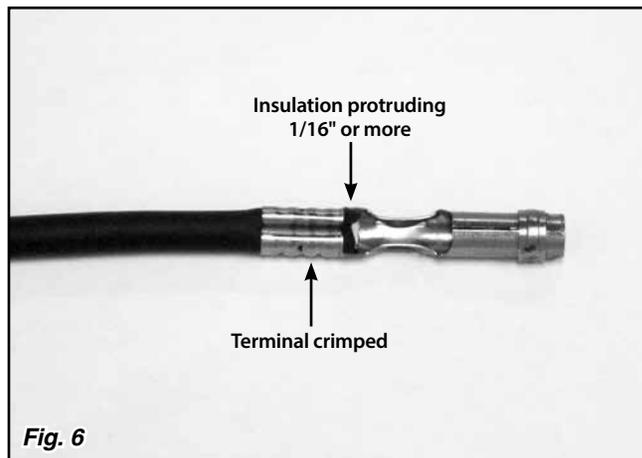

Fig. 6
Step 10: Use the spark plug wire crimper to crimp the terminal onto the plug wire. **Fig. 6**